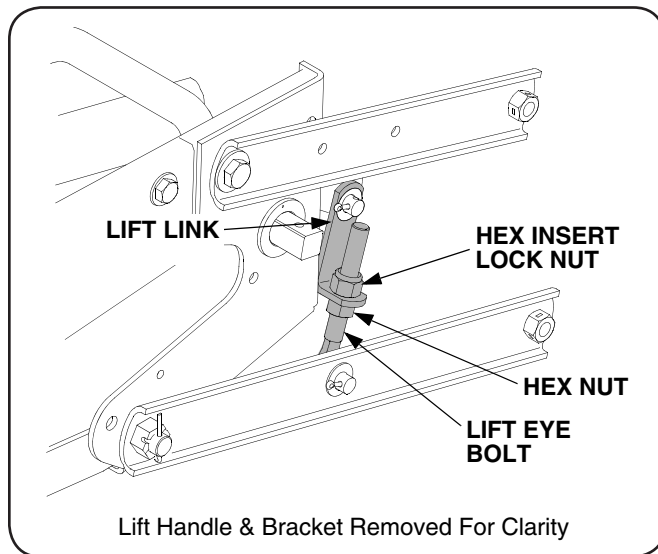

Figure 6-4
- Loosen the hex insert lock nut at the top of one adjustable eyebolt link. Refer to Figure 6-4.
- Thread the hex nut beneath the lift link up the eyebolt to lengthen the lift link assembly. Lengthen the lift link assembly only as needed to eliminate the drive shaft contact. Retighten the hex insert lock nut after adjusting. See Figure 6-4.